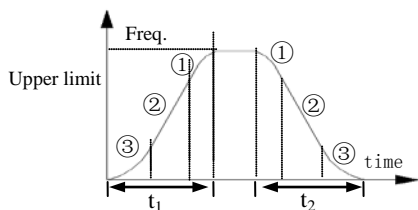

Fig.6-5 S curve Acc/Dec
**1:** S curve Acc/Dec. Output frequency increases or decreases as s curve shown as Fig.6-5.
S curve start stage time shown as Fig.6-5 (3). The curve slope is increasing from 0.
S curve ascent stage time shown as Fig.6-5 (2). The curve slope keeps constant.
S curve end stage time shown as Fig.6-5 (1). The curve slope is decreasing to 0.